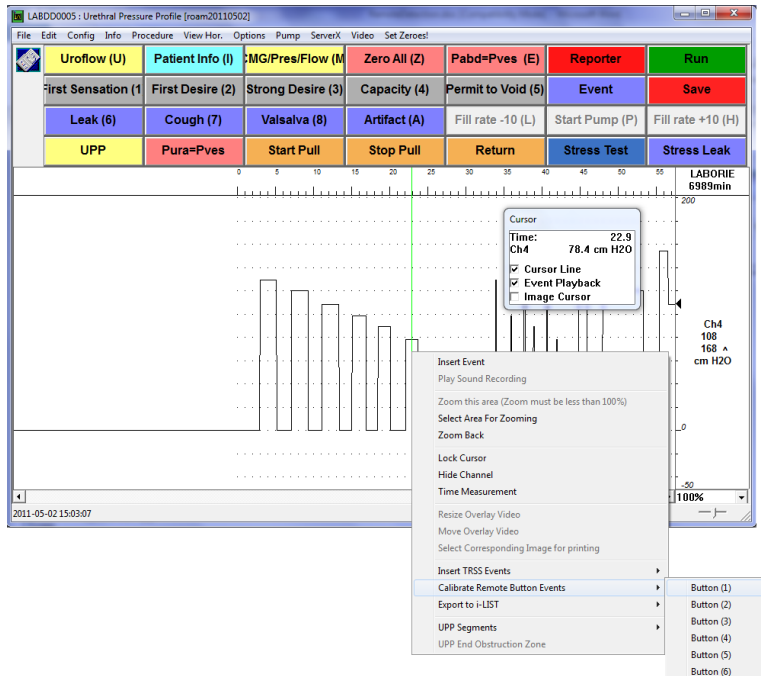

Figure 99: Calibrate Remote Button Events
- Run a sample test and press the remote buttons one by one, starting with Button (1). Each instance will be marked on the graph as an event providing a relative CH4 value. Take note of the order you press the buttons.
- On the graph, right-click on the first event to open the context menu as shown in Figure 99. Click **Calibrate Remote Button Events > Button (1)** from the context menu. Repeat for all other buttons using their correlating events.